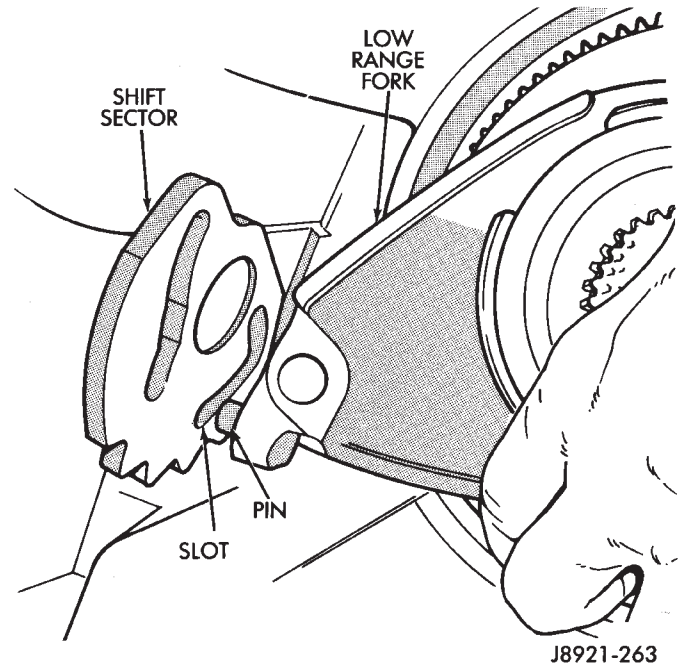

Fig. 25 Shift Sector Position
(37) Remove shift sector (Fig. 25).